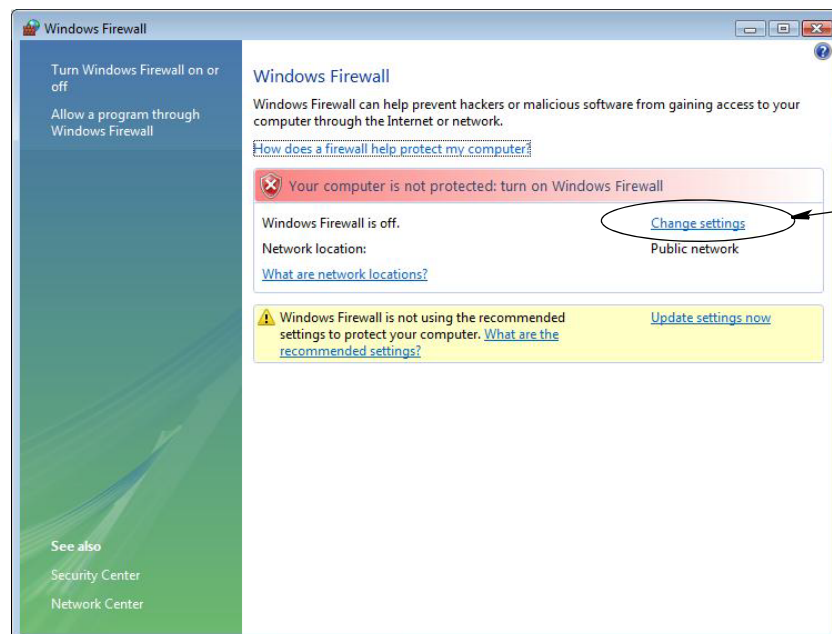

FIG. 27
2. Select Change Settings (FIG. 27).